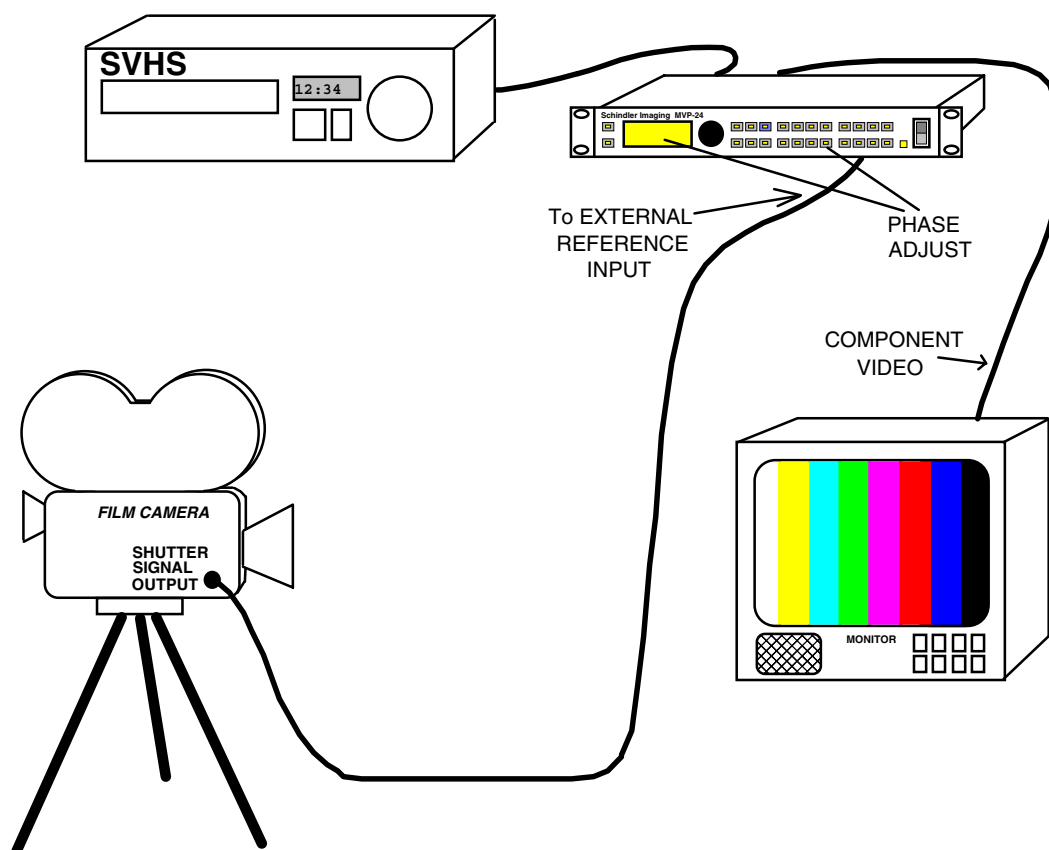

Figure 7. Single Camera without Sync Box.
5.4.2 SINGLE CAMERA AS REFERENCE For single camera shots, it is possible to use the shutter signal from the camera as the master reference. This eliminates the need and expense for a camera sync box. The MVP-24(s) will receive the camera's frame or V-drive signal and synchronize the video monitor(s) to it (See Figure 7).
5.5.2 SINGLE CAMERA PHASING USING THE MVP-24 For single camera shots, it is possible to lock the MVP-24(s) to the shutter signal from the camera, and eliminate the camera sync box (see Figure 7). In this configuration, the monitor will be phase adjusted instead of the camera. The procedure is similar, except the "Vertical Phase" control menu (see section 2.3.8b) on the MVP-24 is used to make the adjustment.